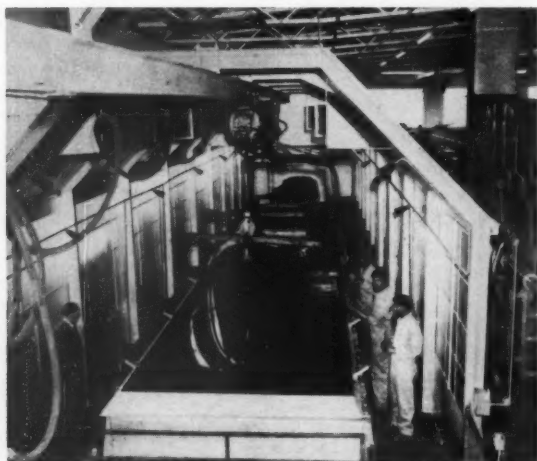

Fig. 6. Paint dip tank viewed from above.
(10) *Prime dip tank (Figure 6)*